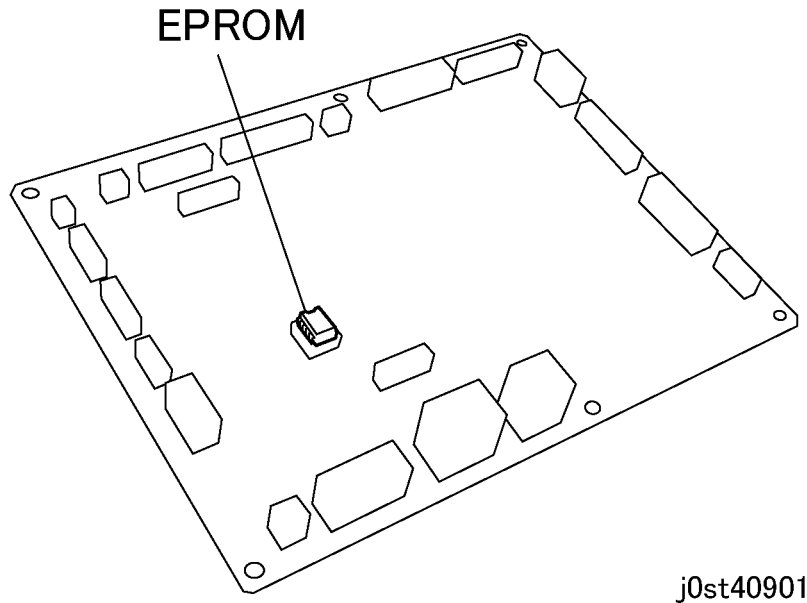

Figure 2 MCU PWB EPROM Location (j0st40901)
1. Install the EPROM from the old MCU PWB on the new MCU PWB (Figure 2).